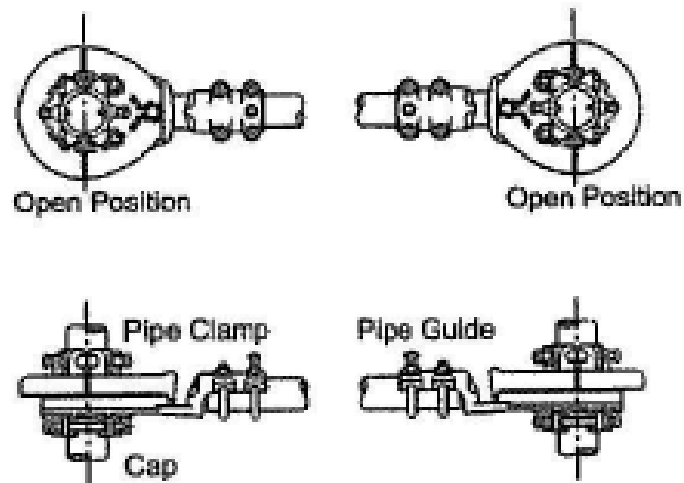

Figure 12: Typical Mechanical Interlock Arrangement
2. Place the Disconnect Switch in the fully open position, and the Grounding Switch in the fully open position – **Figure 12**